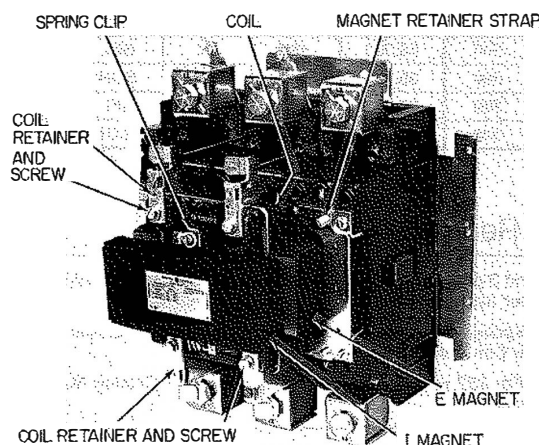

Figure 1. 300 ampere lighting contactor, CR360L.
1. Loosen 4 coil retainer screws (Figure 1). Press against coil and pull up and out on coil retainers (Figure 1).